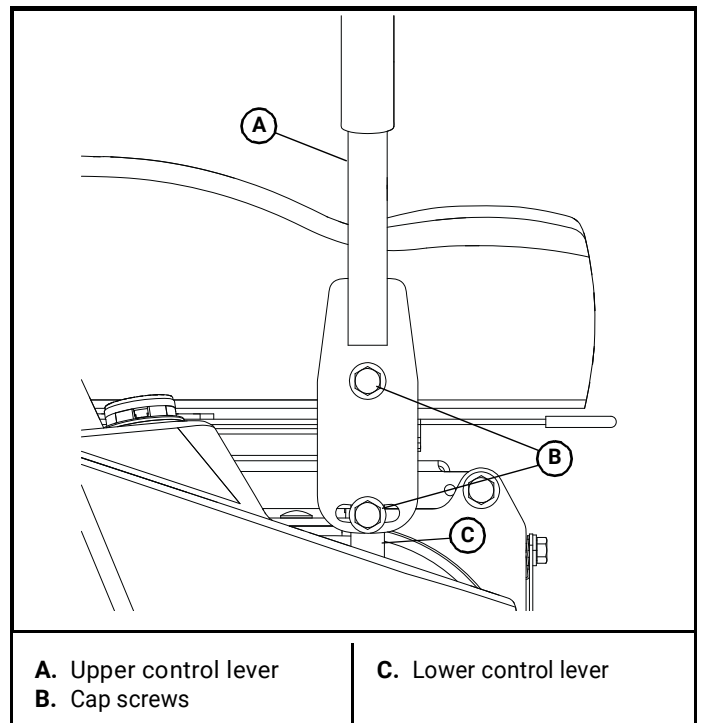

Figure 4-9
- Loosen the cap screws that attach the upper control lever to the lower lever, then pivot the upper control lever to fit the operator's personal preference. Figure 4-9